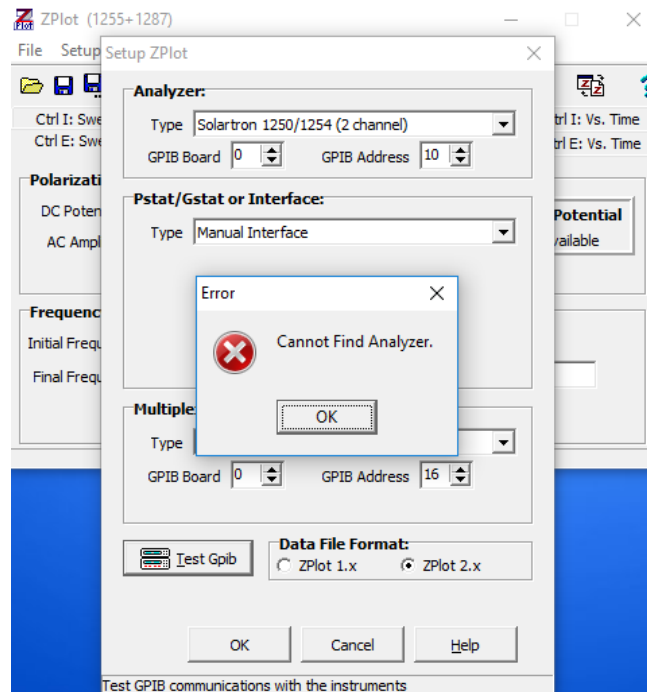

Figure 6
d. Make sure that a National Instruments USB-GPIB adapter is connected from the PC to the GPIB connector on the rear panel of the 1250. **Note:** The 1250 should be the only instrument connected for this test. Click “Test GPIB”. If connections have failed, the following error message will appear (Figure 6).